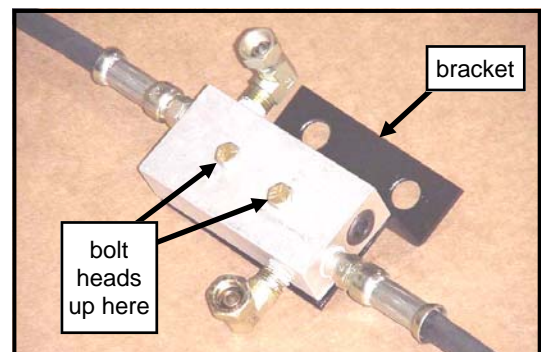

Fig. 4.2—Bracket Assembly
**4.2** Per fig. 4.2, attach the bracket to the bottom of the block using two bolts and two lock nuts as shown.